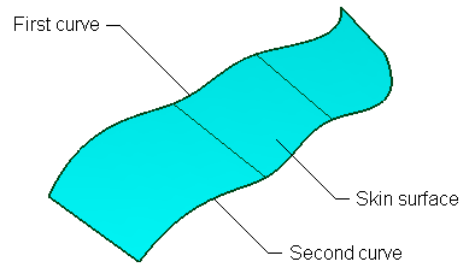

Figure 3-17 Skin surface
curve. Select one of the curves; you will be prompted to select the next curve or re-select the first curve to undo its selection. Select the other curve from the active window; the skin surface will be created, as shown in Figure 3-17.
1. The display of CVs, hulls, and edit points in Figure 3-17 has been turned off by using the options in the **Display** area of the **Control Panel**.